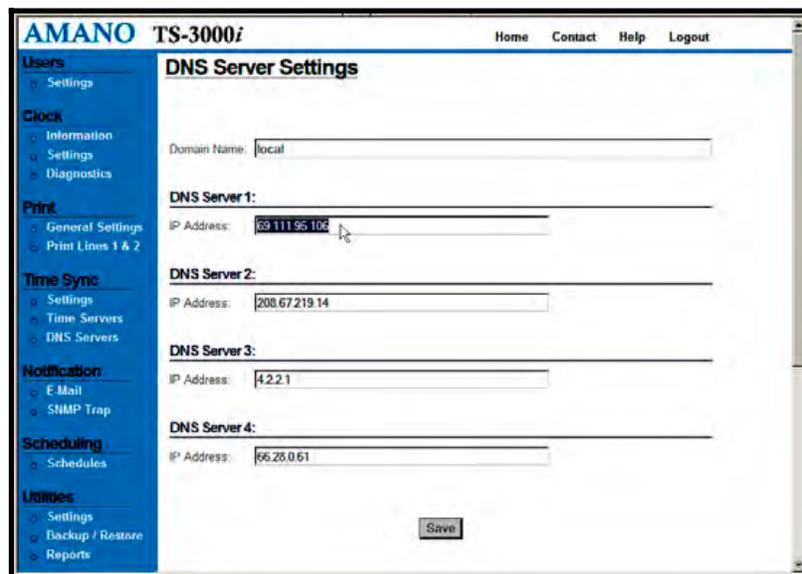

Figure 8-2: Configure DNS Server Settings
- Step 2.** Click on the **DNS Servers** link under **Time Sync**, and the **DNS Servers Settings** screen will appear displaying the four (4) default public DNS servers (see *Figure 8-2*).